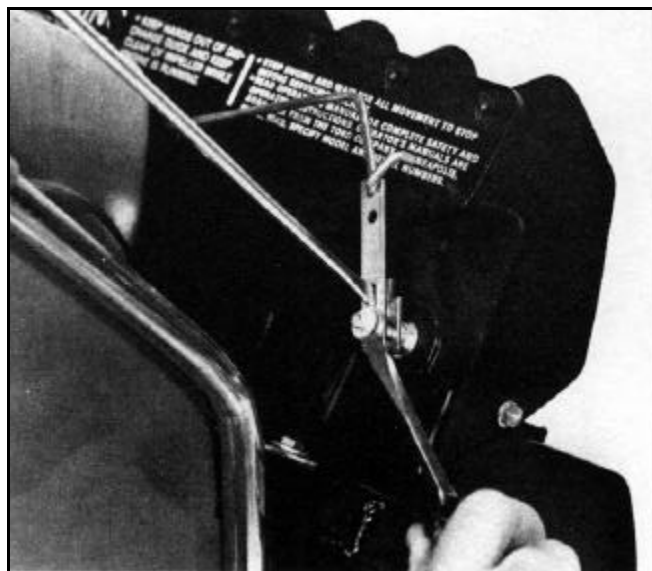

Figure 178
3. Remove the push-on retainer and slide the washers and vane bracket off the carriage bolt. Should the carriage bolt be loose, tighten. Replace the carriage bolt and locknut if needed (Figure 178).